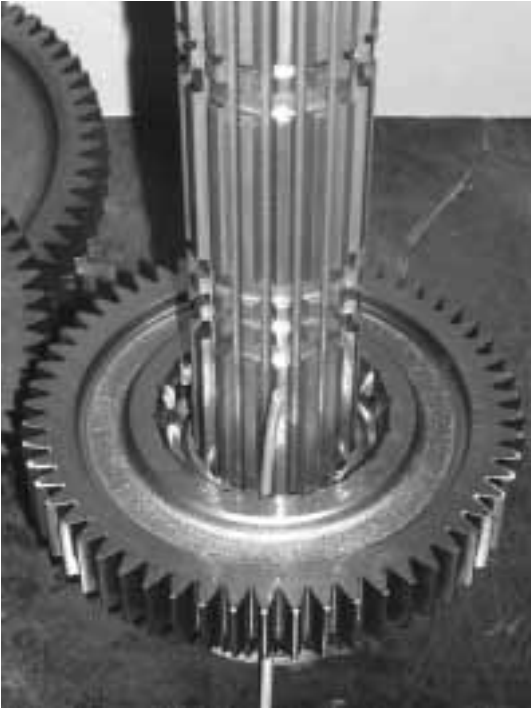

Figure 57 – Fitting 3rd Speed Limit Washer
- e. Install the 3rd gear limit washer, rotate the washer to align the splines and feed the plastic line up to hold the washer in place (refer to Figure 57).